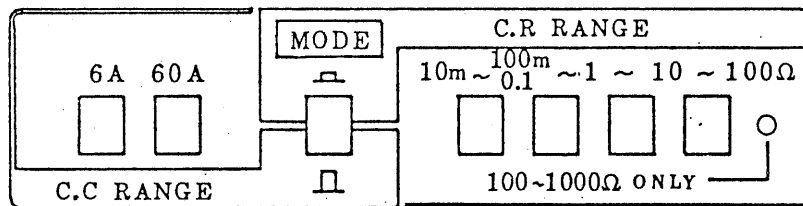

Figure 2-5-2
Step 2. The LED of the 100 - 1000  $\Omega$  range shown in Fig. 2-5-2 should be lit. Use the 10 - 100  $\Omega$  button for switching to the other ranges.